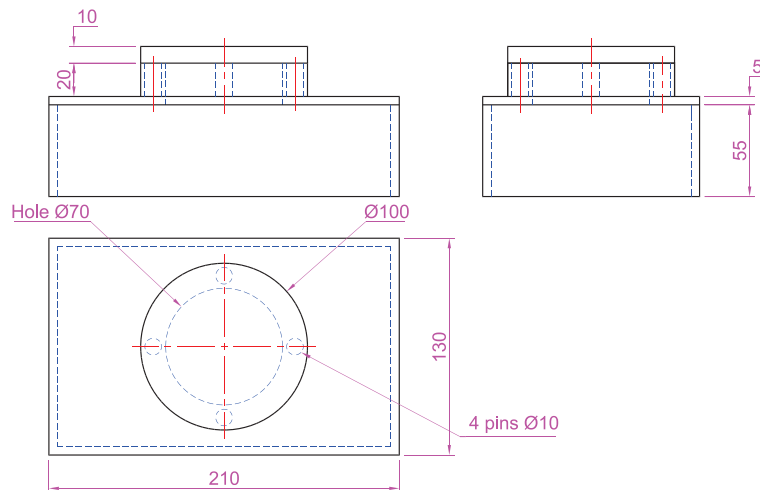

Fig. 14.27 First example – **Section** – orthographic projection
1. Construct a 3D model to the information given in Fig. 14.27 on layers of different colours. Note there are three objects in the model – a box, a lid and a cap.